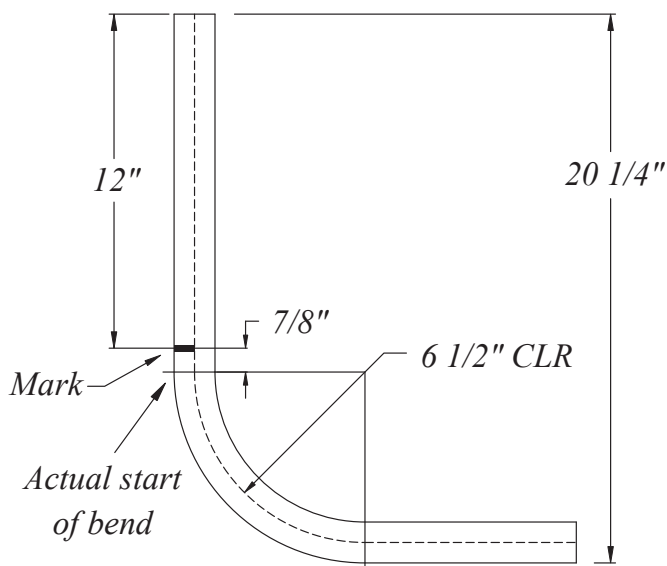

Figure 26
- With the tube bent correctly to 90 degrees locate the actual start of the bend. To do this, measure from the end of the tube to the far end of the 90 degree bend. In the example in figure 26 this came out at 20 1/4". Subtract 6 1/2" for the centerline radius (CLR) of the Bending Die, another 3/4" for the radius of the tubing not seated in the die, and 1/8" for springback. (Substitute the CLR and tube radius to match your die set). The 1/8" figure for springback is an approximation, not an exact figure. However it is usually very close to the real thing and may be used without worry to determine the actual starting location of the bend. So: